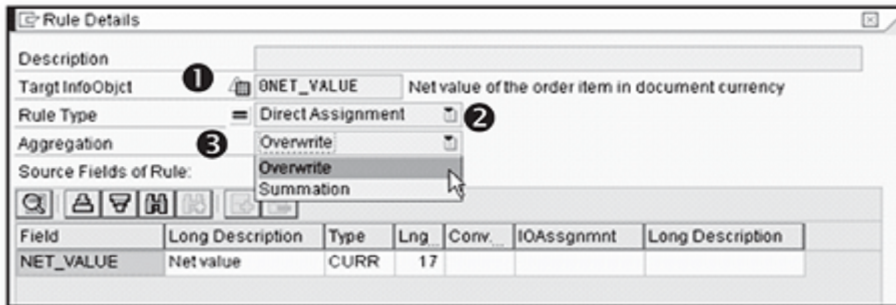

Figure 7.69 Aggregation for Key Figure in Rules Detail
Data targets can have characteristics as well as key figures, and the rule details we've discussed in this section have been specifically for characteristics. Rule details for key figures are similar but offer the additional option of aggregation, as shown in ❸ of Figure 7.69. The Aggregation option specifies how key figures should be stored when the key fields (DSO) and characteristics (InfoCube) have the same value. There are two options available for a key figure InfoObjects in the data field of a DSO: Overwrite and Summation (we also discussed this in Chapter 4, DataStore Object). By default, the aggregation option for key figures of a DSO is set to Overwrite. Because our DataSource delta process is set to After Image, all key figures of the DSO must
be set to Overwrite. Rule details for the key figure displays target InfoObject (❶ of figure 7.69) and Rule type (❷ of figure 7.69)